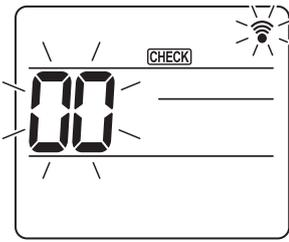
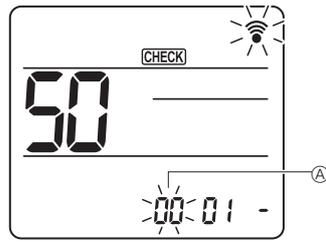
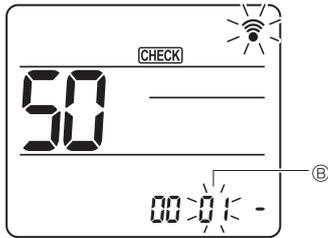
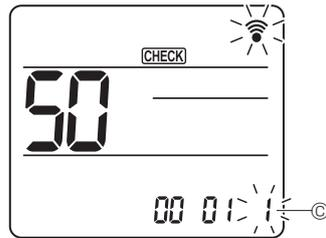

Fig. 6-18
Fig. 6-19
Fig. 6-20
Fig. 6-21
- ① Going to the function select mode
- [CHECK] is lighted and "00" blinks. (Fig. 6-18)
- ② Setting the unit number
- Press the **↑/↓** button to set unit number **A**. (Fig. 6-19)
- ③ Select a mode
- Press the **↑/↓** button to set Mode number **B**. (Fig. 6-20)
- ④ Select a mode Selecting the setting number
- Use the **↑/↓** button to change the Setting number **C**. (Fig. 6-21)
- ⑤ To select multiple functions continuously
- Repeat select ③ and ④ to change multiple function settings continuously.
- ⑥ Complete function selection